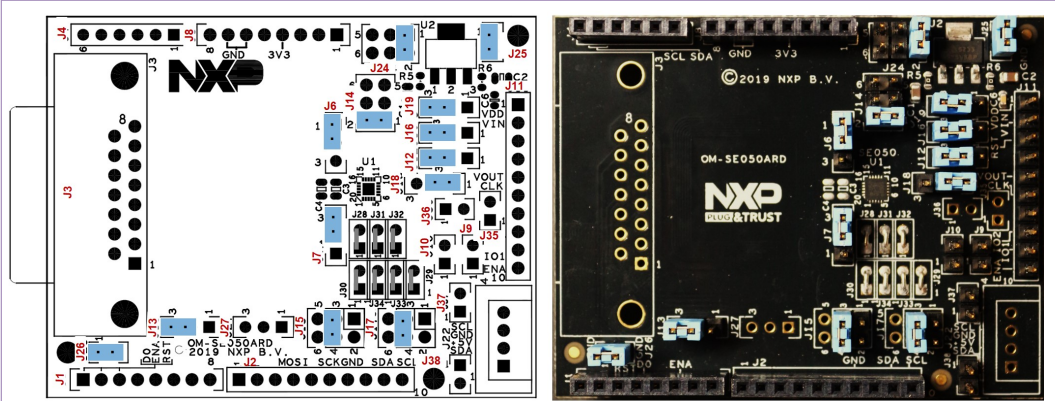

Figure 6. Jumper configuration for FRDM-K64F
The OM-SE050ARD board has jumpers that allow you to interface the EdgeLock SE050 I2C interface via the Arduino header. Configure the jumper settings as shown in Figure 6 to enable this option.
**Note:** Refer to Figure 6 for OM-SE050ARD jumper configuration.